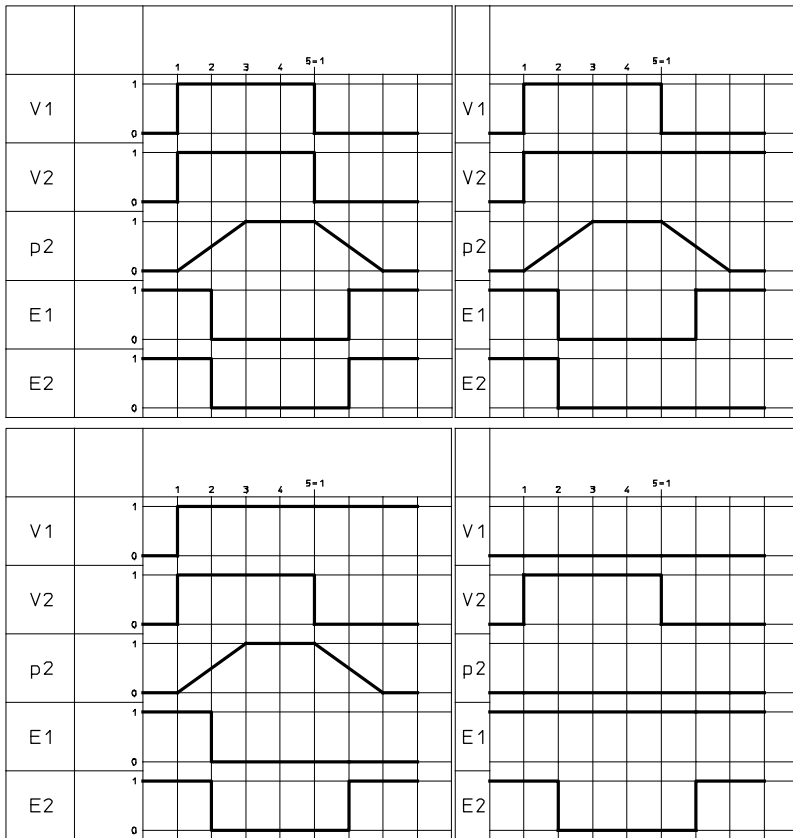
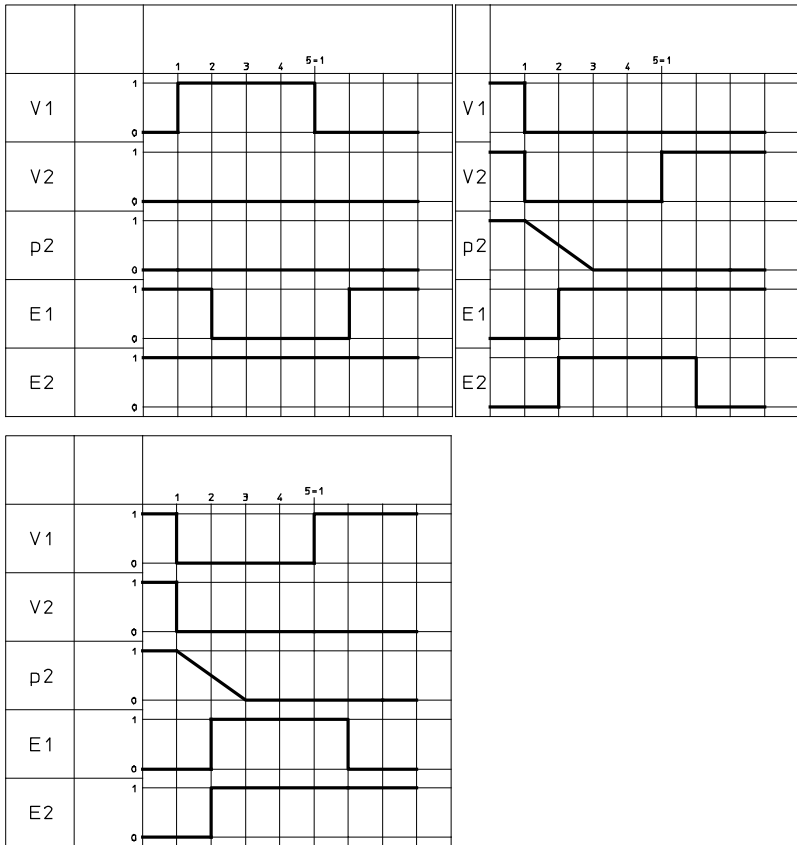

Fig. 7 Function test, steps 1 to 4
Fig. 8 Function test, steps 5 to 7
3. Check all possible switching position combinations of the two 5/2-way solenoid valves V1 and V2 of the control block and the signals of the proximity sensors E1 and E2 (here: PNP proximity sensors) by using the following step sequences (➔ Fig. 7 ... Fig. 8).